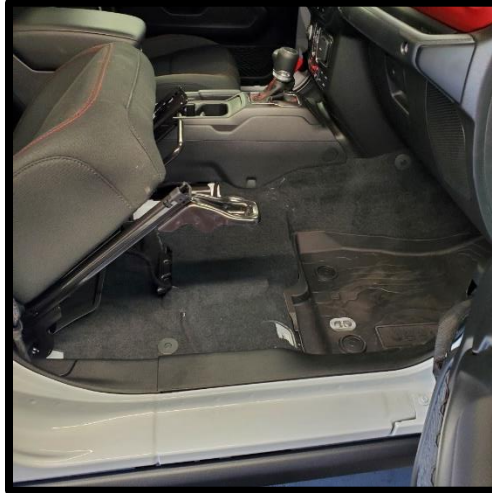

Figure 10
- 2-A) Using a T-50 or E-12 Torx remove the 2 rear bolts that secure the passenger seat, then slide the seat all the way back, and tilt back section all the way forward. Then remove the 2 front seat bolts and lean seat backwards (**Figure 10**). There will be one or more harnesses attached to the bottom the seat. They do not need to be removed or disconnected.